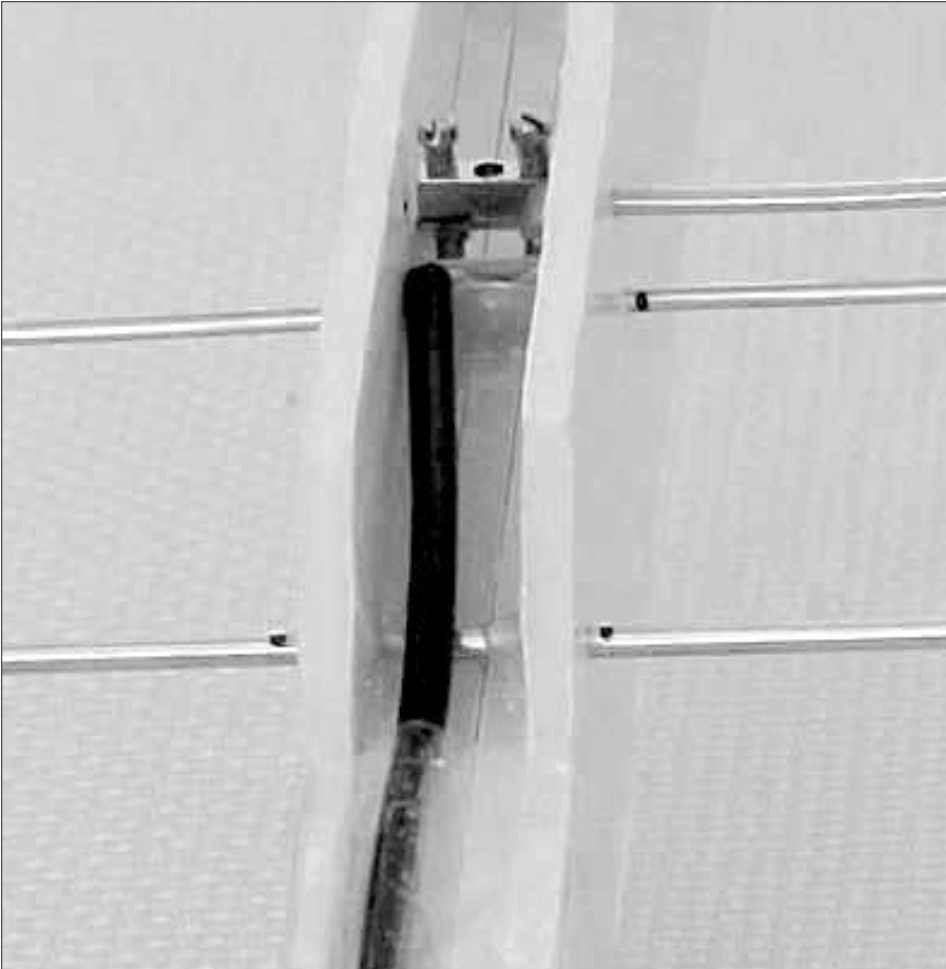

Figure 4: Driven element detail.
35) Use the flat 1/8" blade screwdriver to back-off the screws in both connectors, if necessary, until no screws are entering the wire chamber. Then, slide one connector over the coaxial cable shield conductor. Locate the pair of holes in the side panel for the driven element's long segment. Place the connector installed on the shield wire between these holes with its screws facing forward and tilted up. The coax shield should come out of the side of the connector opposite the first hole which the driven element will pass through. Then, push the long element segment through the hole in the side panel and into the connector. As you're doing this, use the 4" long nose pliers, as needed, to position and hold things in place. See Figure 4.
36) Slide the other connector over the coax center conductor. Locate the pair of holes in the side panel to be used by the driven element's short segment. Place the connector installed on the center conductor between these holes with its screws facing up. The center conductor should be on the same side as the shield. Push the short segment through the side panel into the connector, while moving more of the long segment. Keep pushing the short segment through the connector until a little bit of it passes into the other side panel but doesn't extend beyond it. Having the short segment, as well as the long, held by both side panels considerably strengthens the attachment of the driven element to the boom. See Figure 4.
- 42) Apply a dab of hot melt glue to the middle of each element to hold it in place. When done, use some clear packing tape to secure the coaxial cable to the top of the handle part of the boom. See Figure 4.